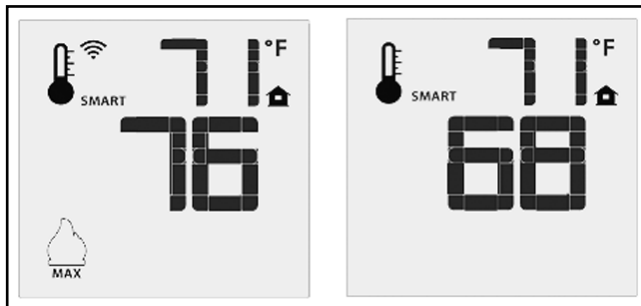

Figure 110: Remote Control's Smart Flame Function.
The Proflame GTMFS has six (6) flame levels. With the system on, and the flame level at the maximum in the appliance, pressing the Down Arrow Key once will reduce the flame height by one step until the flame is turned off. The Up Arrow Key will increase the flame height each time it is pressed. If the Up Arrow Key is pressed while the system is on but the flame is off, the flame will come on in the high position (refer to Figure 110). A single “beep” will confirm reception of the command.
Transmitter: The life span of the remote control batteries depends on various factors: quality of the batteries used, the number of ignitions of the appliance, the number of changes to the room thermostat set point, etc. When the Transmitter batteries are low, a Battery Icon will appear on the LCD display of the Transmitter (see Figure 110) before all battery power is lost. When the batteries are replaced this icon will disappear.